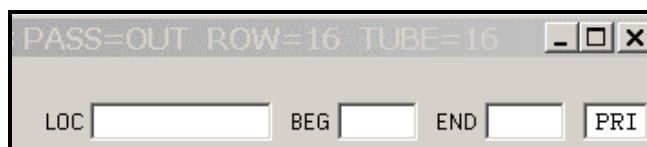

Figure 14-1. Operator Type Display Box
- STEP 4:** Click **OK**. The operator type box on the main analysis screen now shows **PRI** as shown in Figure 14-1.